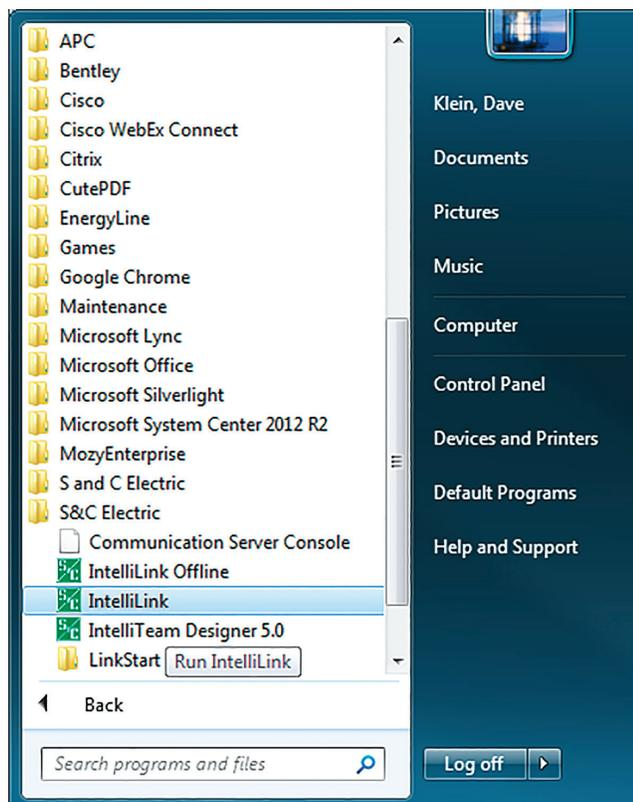

Figure 10. Start button program selection screen.
STEP 3. Select the **IntelliLink** option from *Start>All Programs>S&C Electric* screen. See Figure 10.